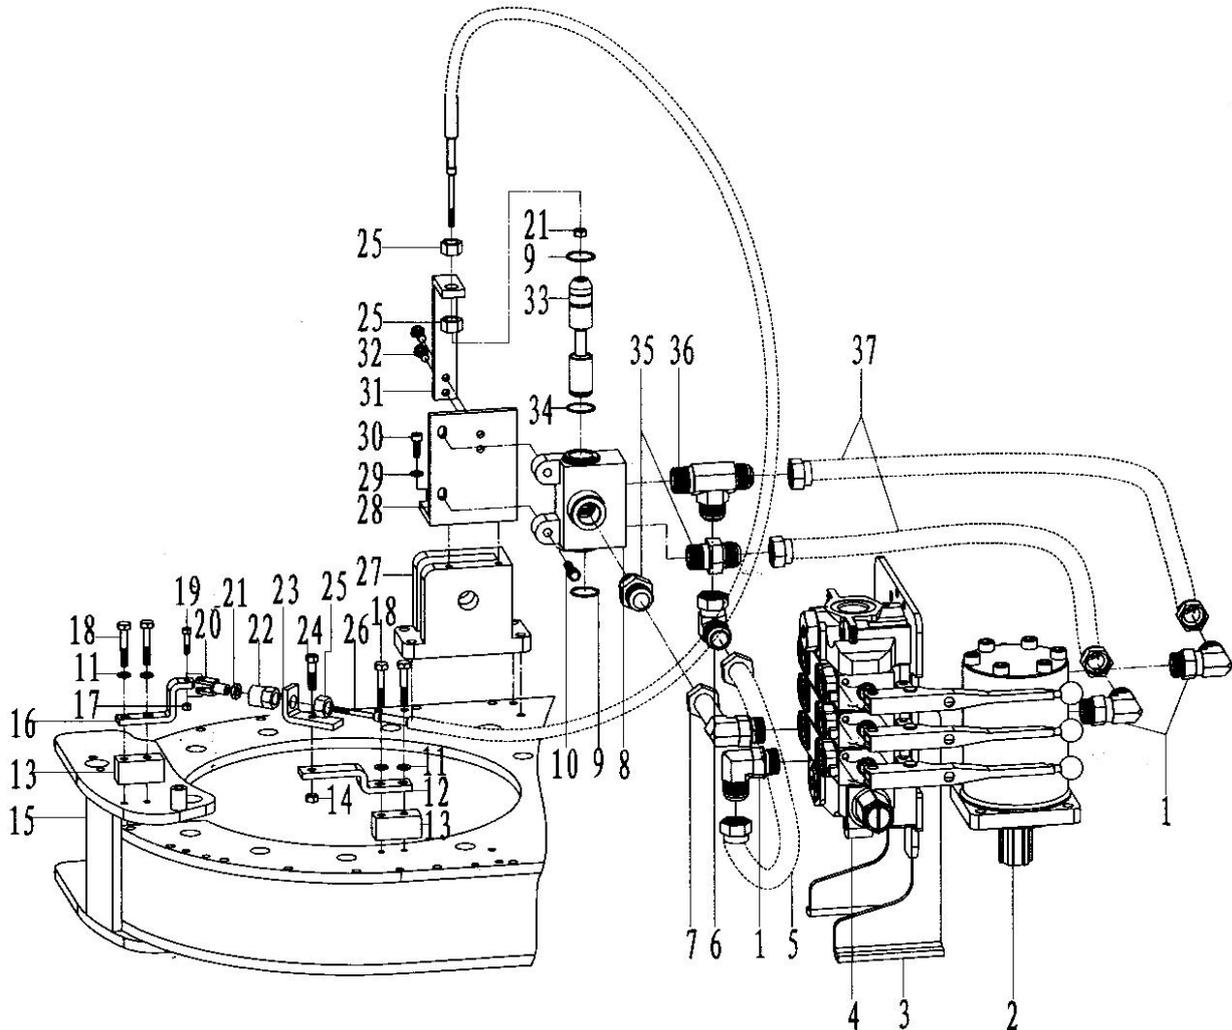

**Fig. 24**
**7.1.17 Quick exchange adaptor (1 7/8-12UN) (Fig.24, Table.19)**